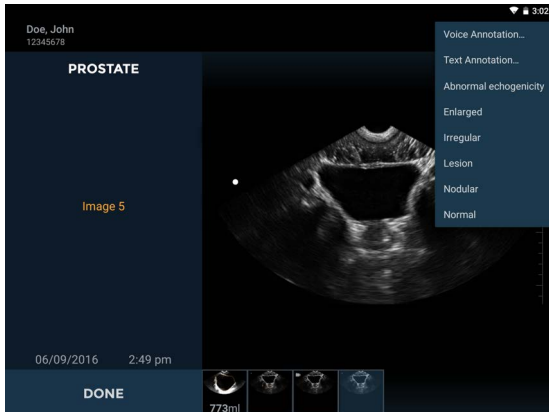

FIGURE 38. Annotation list
- 3. Select from the predefined set of annotations, or select text or voice annotation for custom annotations (**FIGURE 38. Annotation list**).